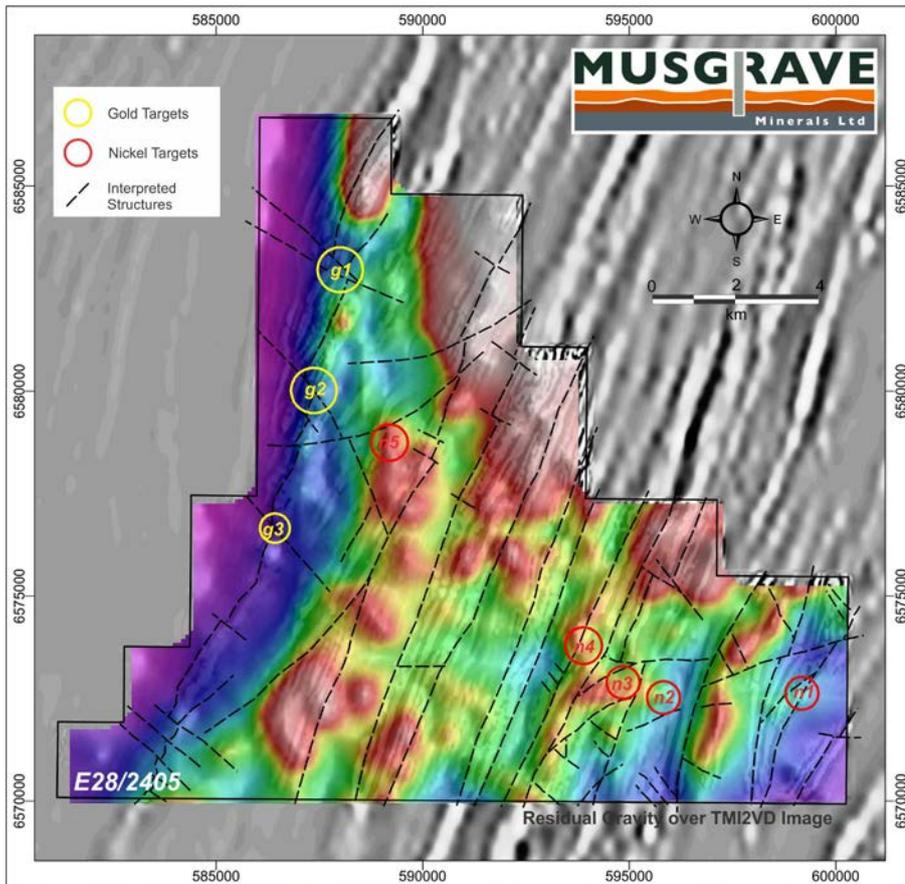

Figure 2: Nickel-copper and gold targets with residual gravity image overlaying TMI 2VD magnetic image
Musgrave has completed a gravity survey over the entire Mamba tenement (E28/2405). The integration of the new gravity data with the existing detailed aeromagnetic and ground electromagnetic (EM) data has highlighted the new targets (Figure 2). The nickel-copper targets correlate with bodies that commonly reflect the more dense lithologies associated with mafic-ultramafic intrusives that host nickel-copper mineralisation in the district.